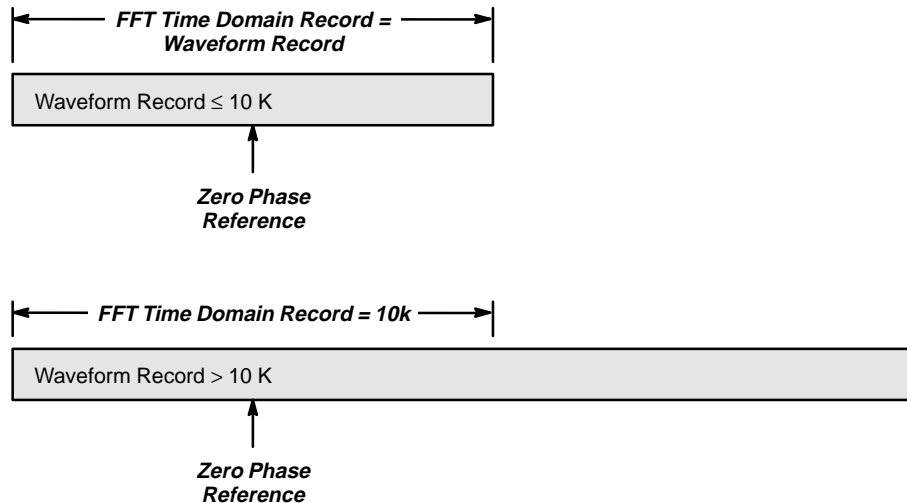

Figure 3-24: Waveform Record vs. FFT Time Domain Record
Figure 3-24 compares the waveform record to the FFT time domain record. Note the following relationships:
**Establish a Zero Phase Reference Point** — The phase of each frequency is measured with respect to the zero phase reference point. The zero reference point is the point at the center of the FFT math waveform but corresponds to various points on the *source* (time domain) record. (See Figure 3-24 on page 3-45.)